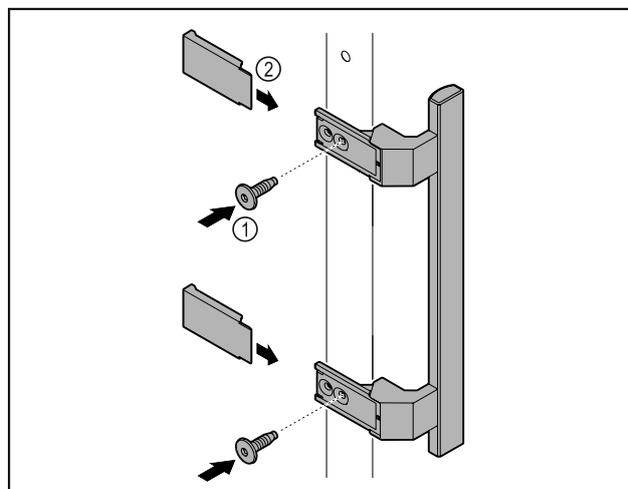

Fig. 57
- ▶ Attach handle from accessory kit to the door using the screws Fig. 57 (1) supplied.
- ▶ Put on cover Fig. 57 (2).